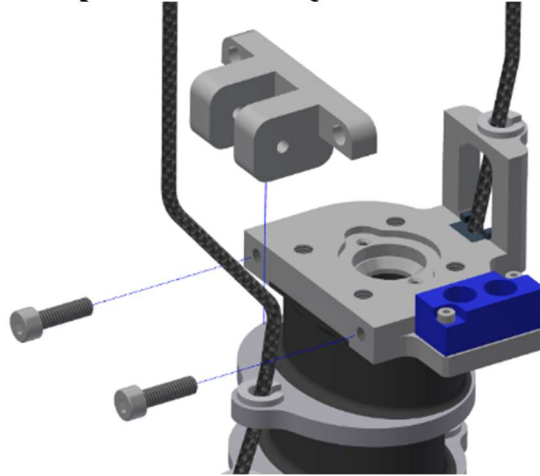

Figure 4-31. Install rear cable pulley bracket to neck
- 4.3.2 The anterior/top of the neck can be identified by the surface containing the machined vertical bracket. Install the Rear Cable Pulley Assembly (474-2308) to the posterior top of the neck using two M4 X 0.7 X 14 SHCS (Figure 4-31).